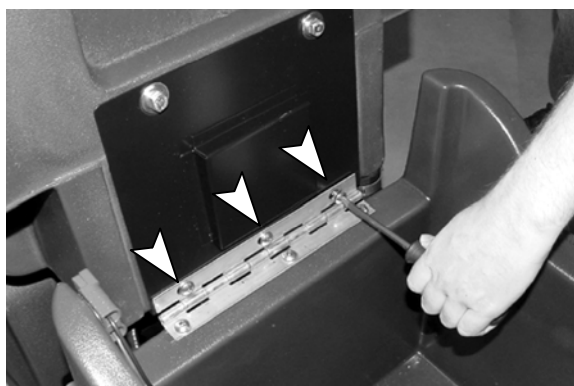

Fig. 2
3. Disconnect the tank housing from the battery compartment as shown (Figure 2). Philips screwdriver required.